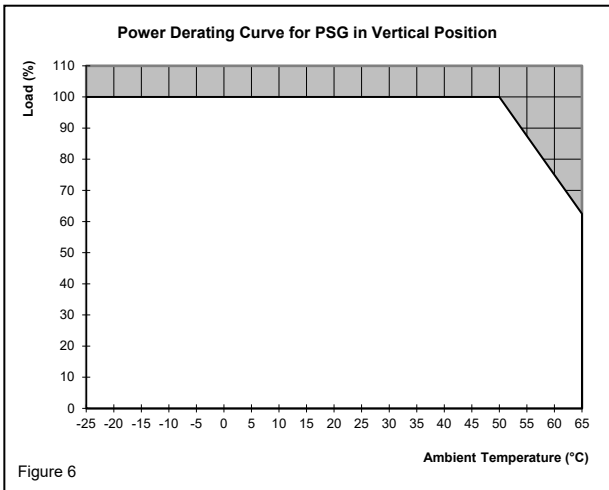

Figure 6
- Thermal behavior (Fig. 6).
Operating temperature (surrounding air temperature)	-25°C to +65°C (Refer to Fig. 6)